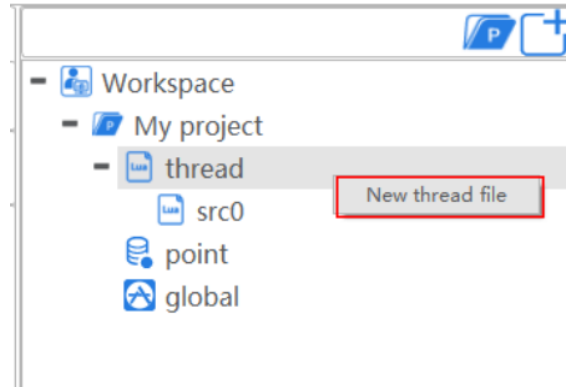

Figure 3.9 Create a project
**Step 3** Set the number of threads based on site requirements, as shown in Figure 3.9. Click **thread** and right-click **New thread file**.